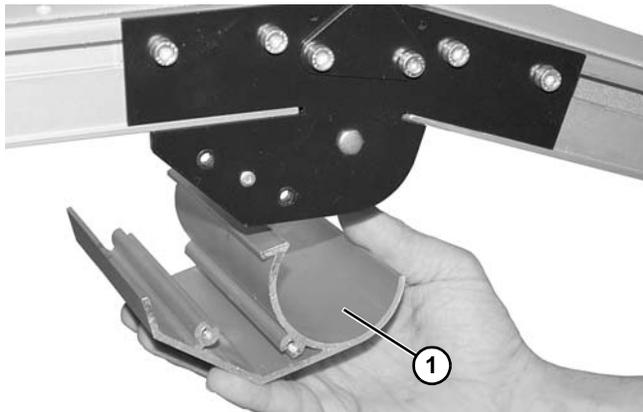

Figure 136
2. Remove guard (Figure 136, item 1).